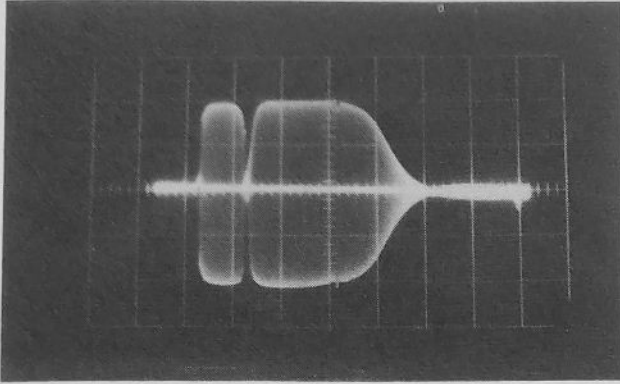

Figure 29. Input, 2V20, Pin 1. Output, 2V11,
29. Adjust 2L17 and 2L18 to obtain a flat response to 1.25 mc as shown in Figure 29.